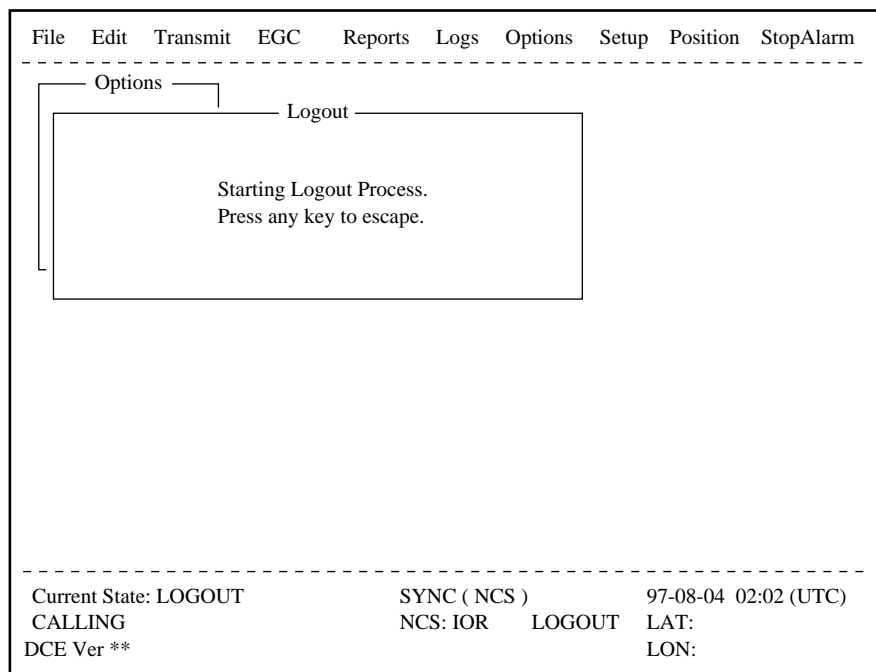

Figure 2-19 Appearance of display screen during logout
3. Press [Enter] to start logout. Logout begins and the screen now looks something like Figure 2-19.